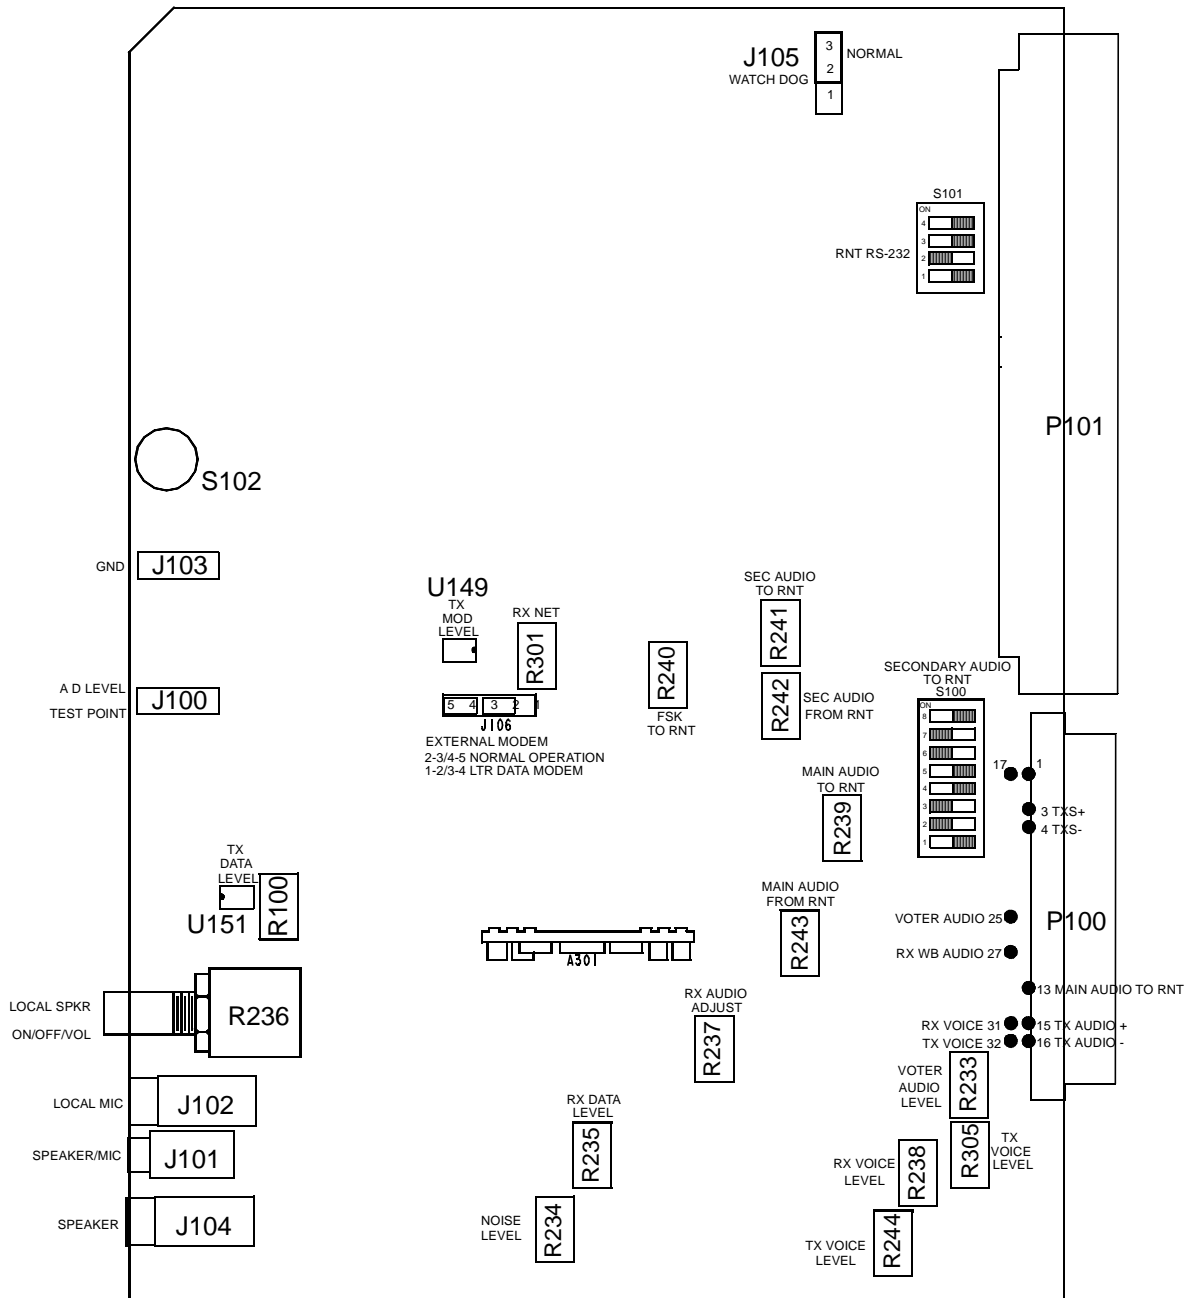

Figure 2-6 SMAC ALIGNMENT POINTS
4. Adjust R239 (Main Audio to RNT) on the SMAC for -12 dBm (see Figure 2-6).